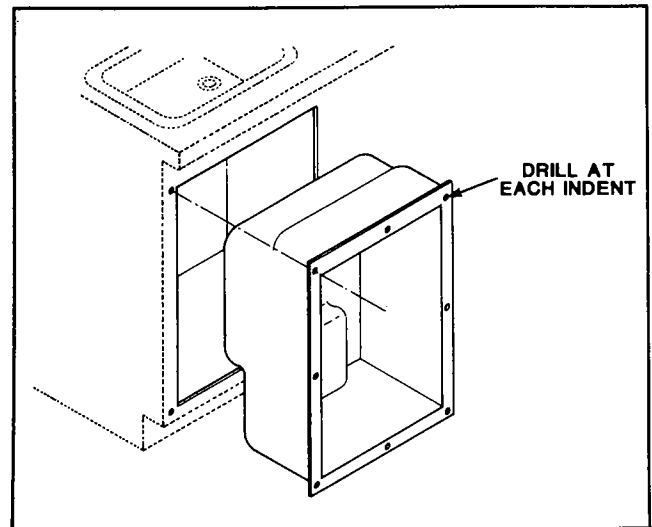

Figure 25. Cabinet Liner
- Hold the cabinet liners in place and line drill #8 holes through both the liner and the cabinet where the indents are located on the liner flanges (figure 25).